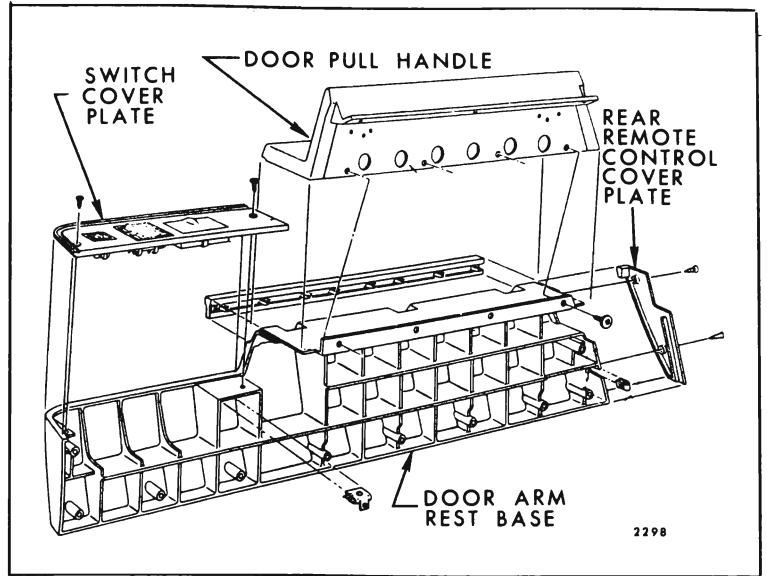
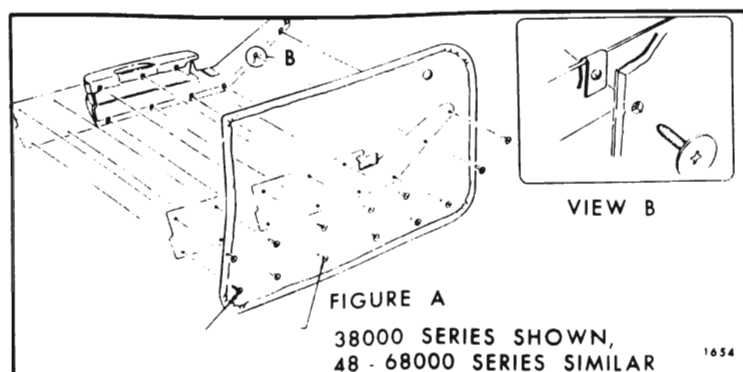
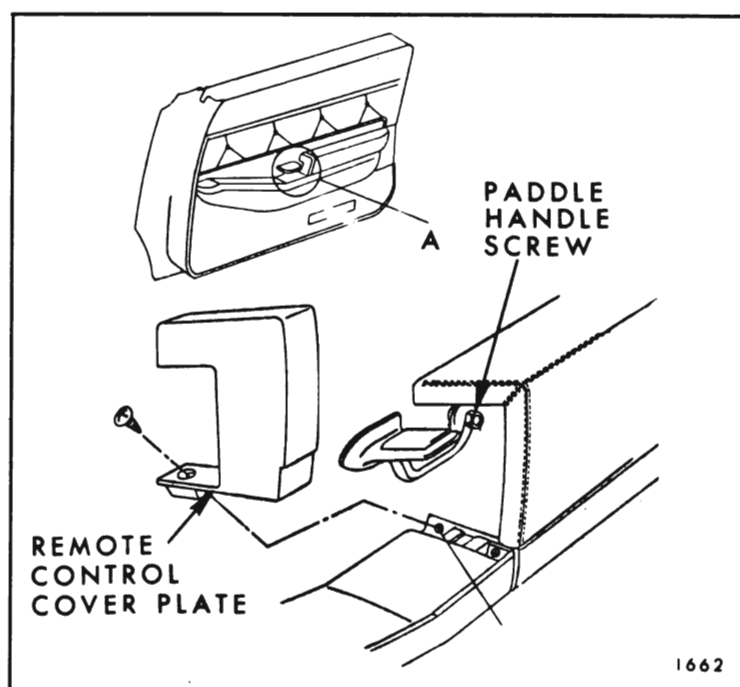

Fig. 7-6—Door Arm Rest and Pull Handle - 49487 Style with Custom Trim
Fig. 7-9—Arm Rest to Door Trim Pad Installation
Fig. 7-11—Remote Control Handle and Cover Plate - Front Door Shown - Rear Door Typical
which are assembled to the trim pad prior to trim pad installation as shown in Figure 7-9.
Figure 7-6 illustrates the arm rest assembly and pull handle build-up on the 49487 Style with custom trim. Retention of this assembly to trim pad is similar to that shown in Figure 7-9.
2. On styles with arm rests that are a component part of the door trim assembly as shown in Figure 7-9, it is necessary to remove remote control cover plate (Fig. 7-11) to gain access to remote control handle screw.
**NOTE:** On 49487 Styles with dual remote control handles, remove switch cover plate to gain access to front handle and remote control cover plate at rear for access to rear handle (Fig. 7-6).